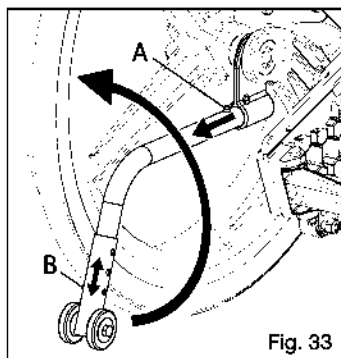

Fig. 33
- a. Depress buttons (Fig. 33:A) on anti-tips.
- a. Depress the buttons (Fig. 33:A) on the anti-tips.
- a. Depress lower button (Fig. 33:B) on anti-tip.